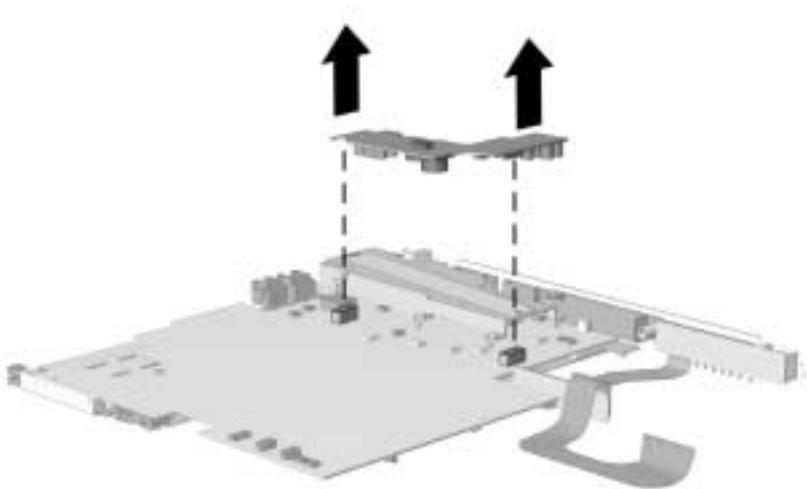

Figure 5-26. Removing the Voltage Converter Board
3. Lift the left and right edges of the voltage converter board to disconnect it from the system board (Figure 5-26).